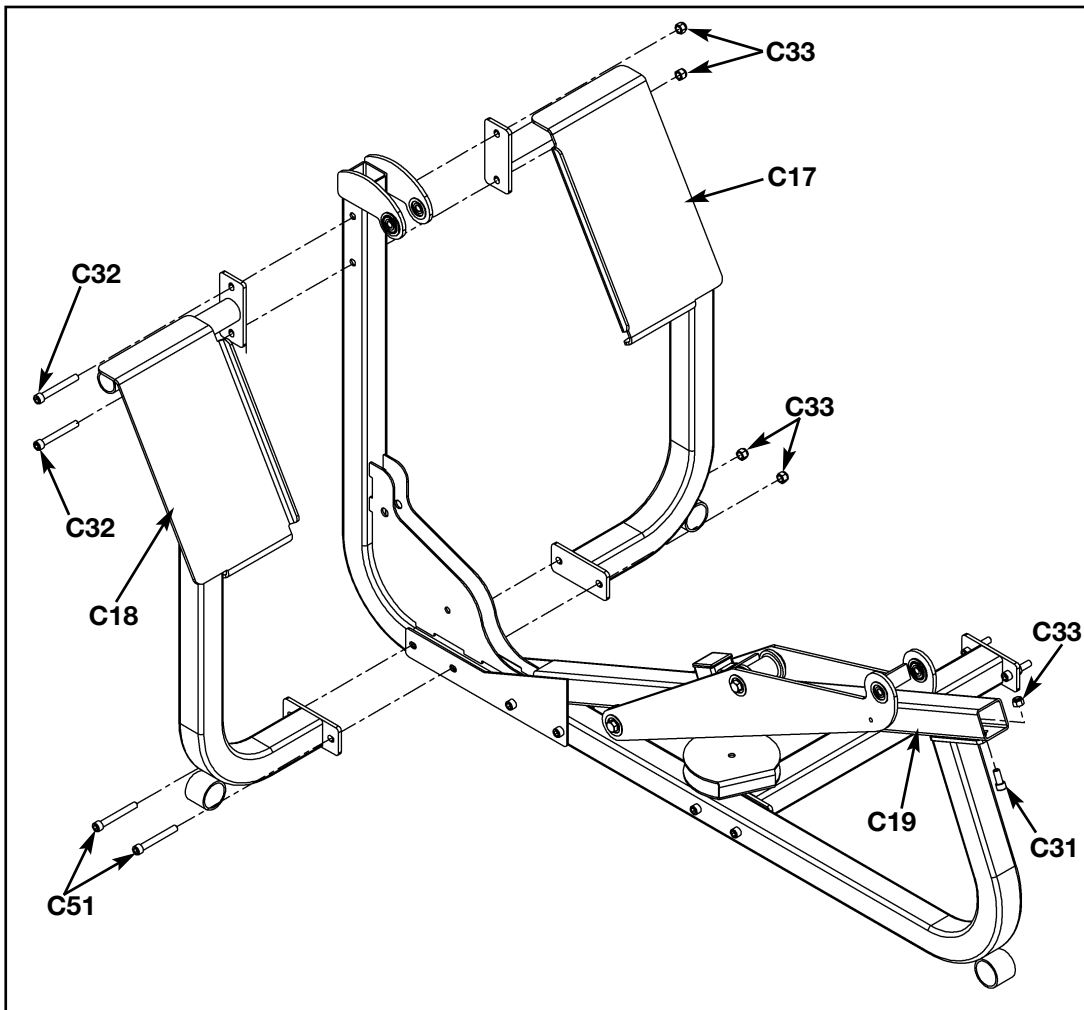

Figure 9
**5. Install footplates** (see steps 5A - 5D and Figure 9).
- B.** Install left (#C18) and right (#C17) footplates. Use two SHCS .375-16 x 3.00 (#C32) for the two upper holes and use two SHCS .375-16 x 3.25 (#C51) for the bottom two holes as shown in Figure 9.
- C.** Install SHCS .375-16 x .875 (#C31) and nylon locknut .375 (#C33) securing roller tube (#C19) as shown in Figure 9.